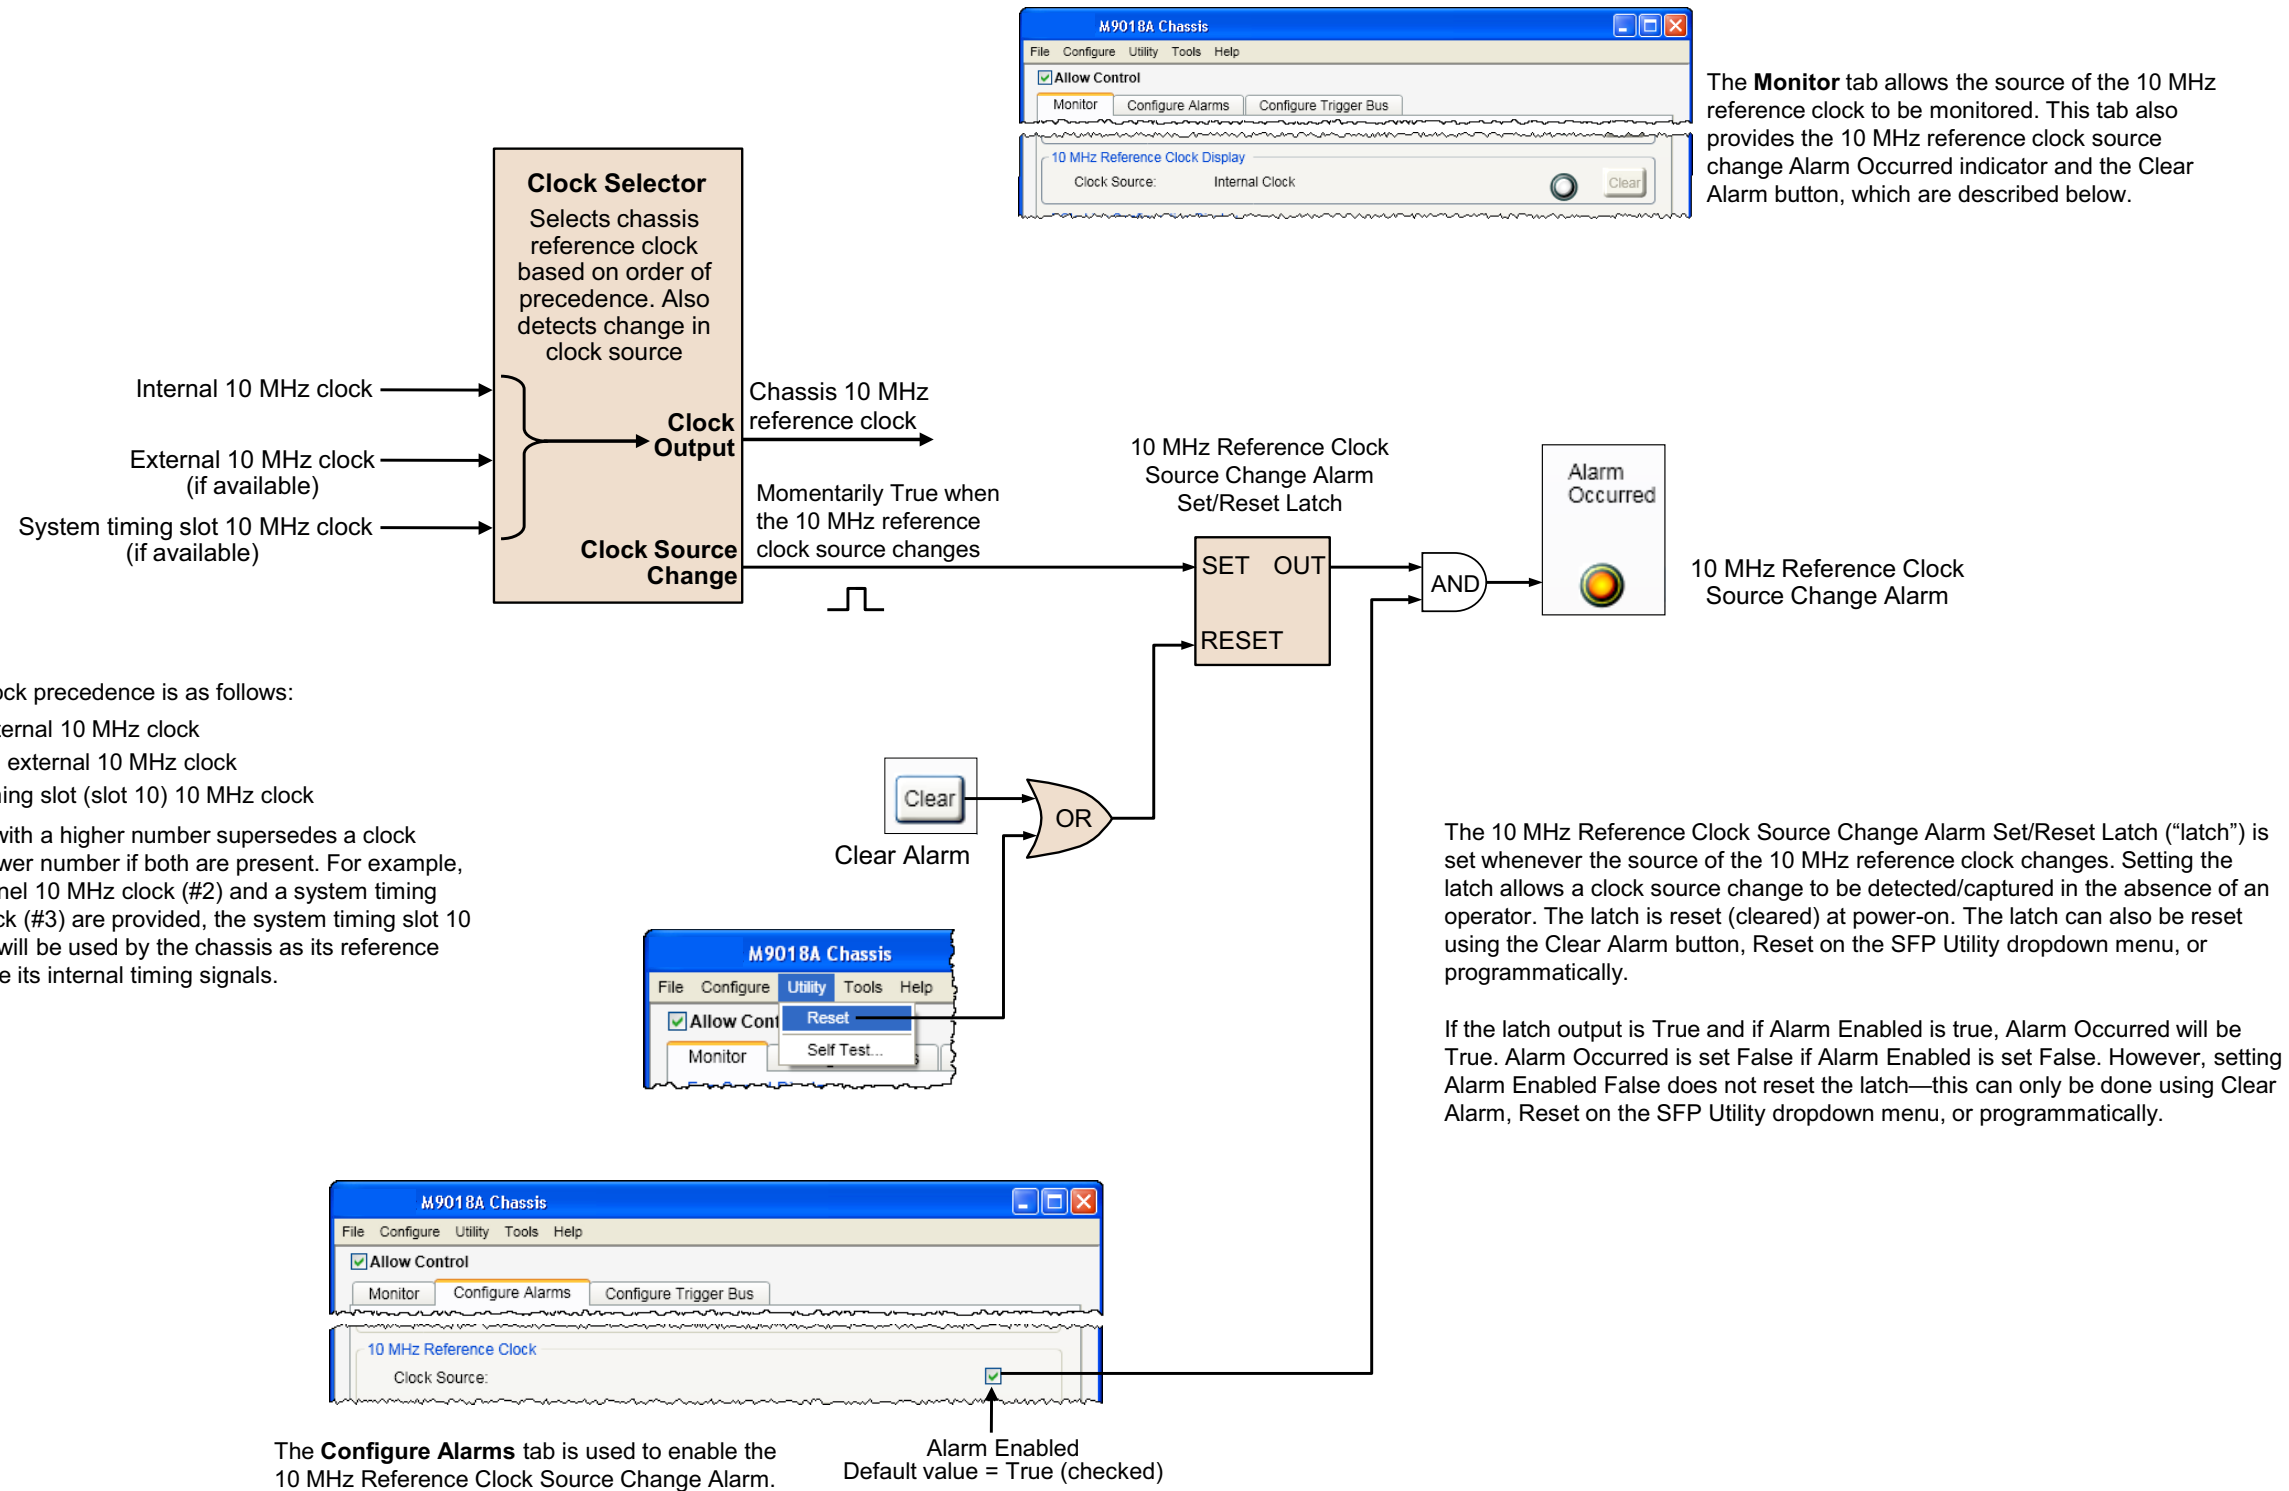

Figure 30 10MHz Reference Clock monitoring using the Soft Front Panel
- Using the SFP – Figure 30 on page 61